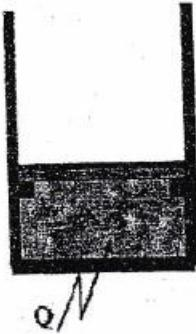

Figure P.10
10. Nitrogen (5 kg) is contained in a piston cylinder device shown in **Figure P.10** initially at a pressure of 800 kPa and a temperature of 127°C . There is a heat transfer to the system until the temperature reaches to 527°C . It takes a pressure of 1500 kPa to lift the piston. Sketch the process on $P - V$ and $T - V$ diagrams and determine the total work and heat transfer in the process. [Take $R = 297 \text{ J/kgK}$ and $c_V = 743 \text{ J/kgK}$] [8]